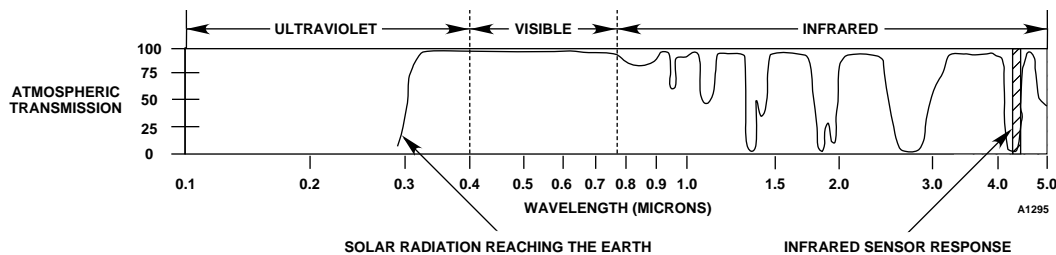

Figure 1—Atmospheric Transmission of the Sun's Radiation
2. Atmospheric transmission of IR from the sun in the 4.2 to 4.7 micron range is nearly zero. See Figure 1.